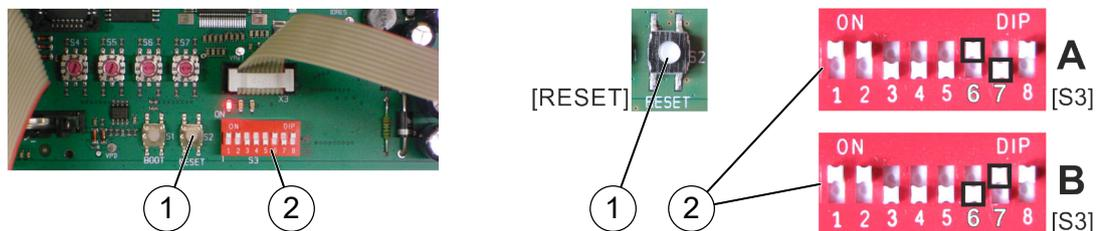

Fig. 49: [Reset] button and DIP switch "S3"
4. ➔ On the CPU3 control card on DIP switch "S3" (Fig. 49/2), set slide buttons "6" and "7" according to the switch type (transparent/gray):
5. ➔ Restart the system by pressing the [Reset] button (Fig. 49/1).